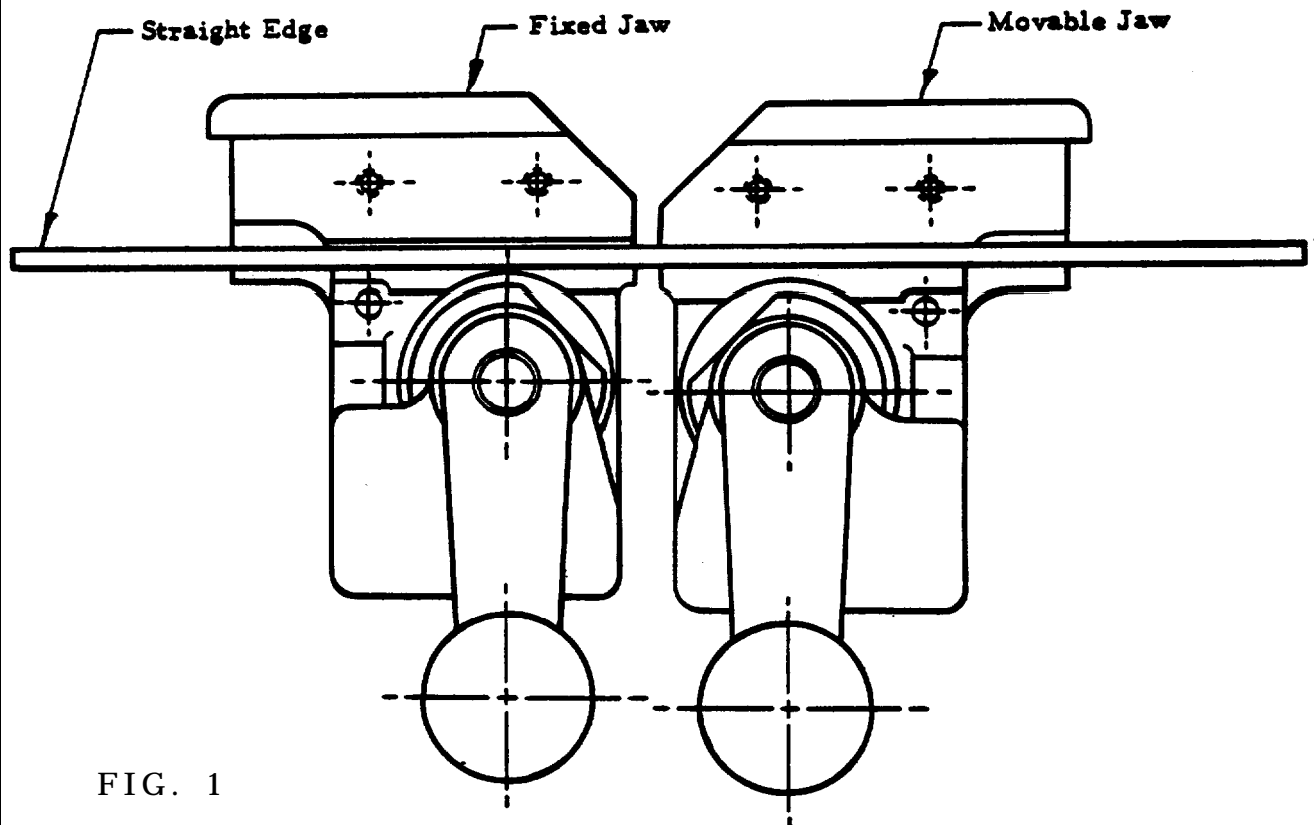

FIG. 1
1. Fig. 1 is an example of jaw elevation misalignment. It is checked with a straight edge. The fixed jaw must be moved to correct this problem. Loosen the mounting screws and move the jaw as required. The mounting screws are located inside the welder case and behind the fixed jaw.